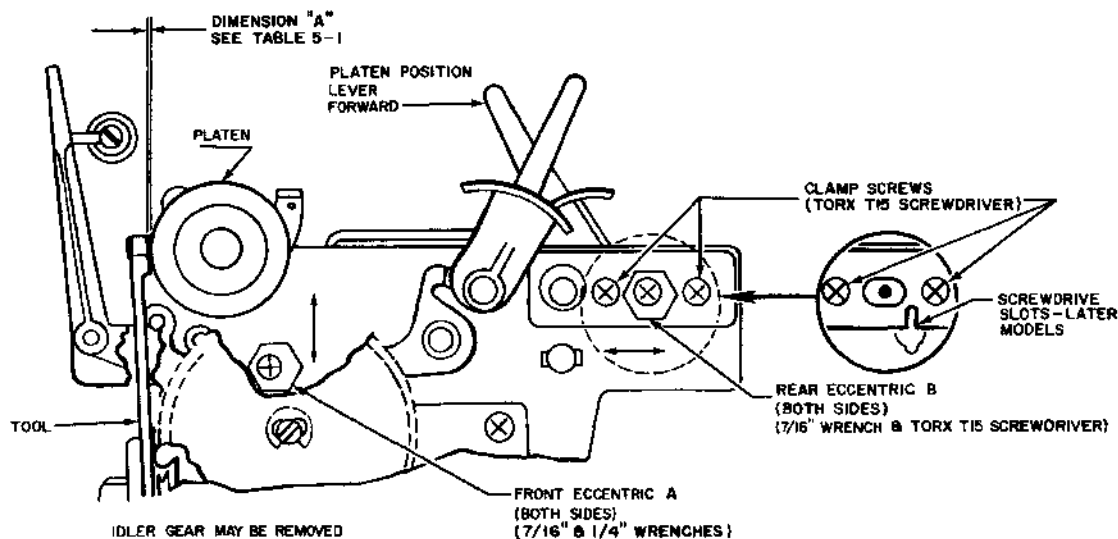

Figure 5-20 PLATEN TO PRINT WHEEL ADJUSTMENT POINTS
- Refer to Figures 5-20 and 5-24, and to subsection 5.4.2.2.